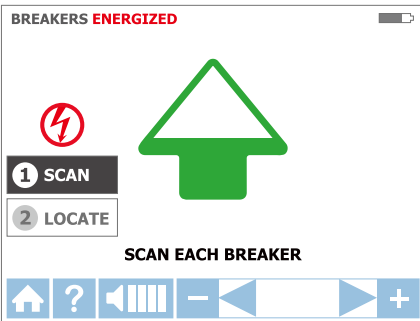

Figure 3.3c: SCAN mode – Scanning breakers/fuses
- 1. The unit will automatically start in 1 SCAN mode (Figure 3.3c).